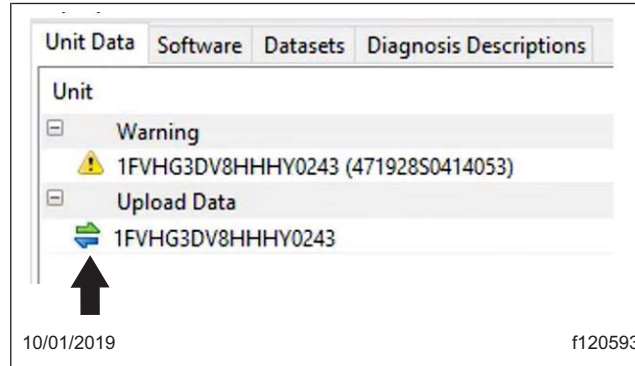

Fig. 8, Server Connection Required Symbol
17. DiagnosticLink will return to the "Program Device" page. The "Server Connection Required" symbol is displayed next to the VIN. Fig. 8.